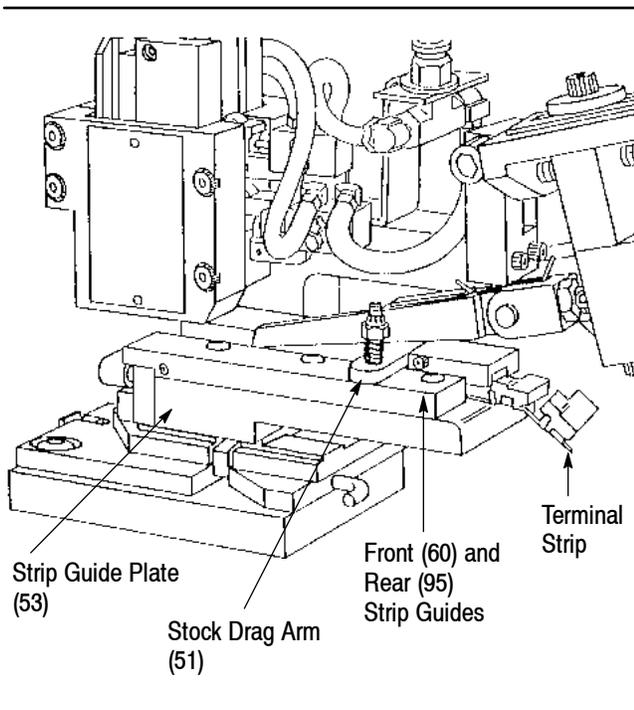

Figure 4
3.1. Loading (Figures 4 and 6)
3.2. Unloading (Figures 4 and 6)
4.6. Strip Guide Adjustment (Figure 4)
1. Wedge or block the feed finger so that it clears the rear strip guide. See Figure 4.